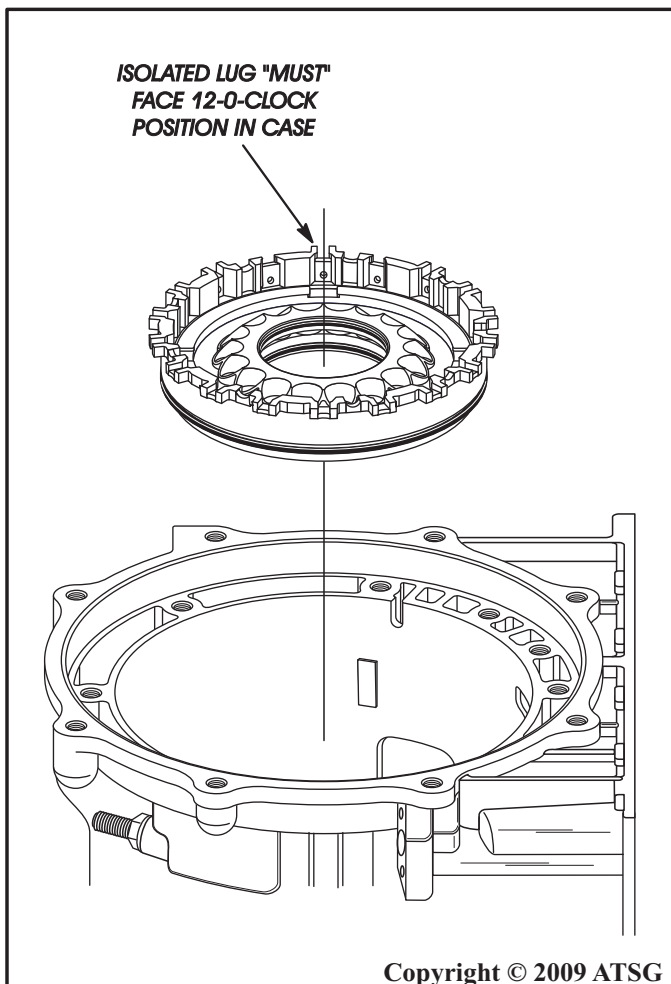

Figure 81
25. Install the low coast brake and forward brake clutch piston assembly into the transmission case, as shown in Figure 81, with the isolated lug to the 12-0-clock position in the case.